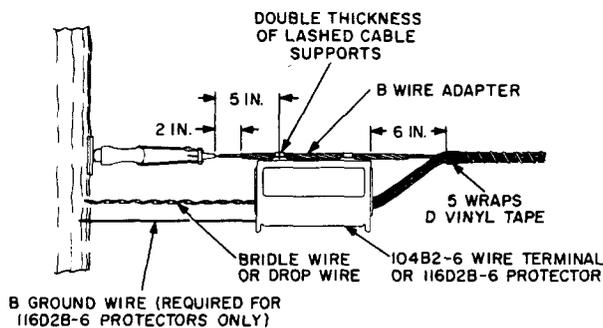
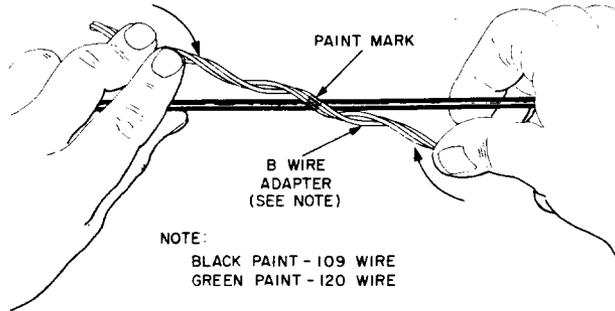

Fig. 1—Multiple Line Wire Deadend
Fig. 3—Installation of B Wire Adapter
- (1) Place the 3-wire set first, starting at the center which is marked by paint, as shown in Fig. 3. Place the 3-wire set (gauge by eye) on the support wire so that it is centered at the terminal clamp nearest the pole (Fig. 1). Wrap the set so it is spiraled around the support wire from the center out to the ends in each direction at once using the thumb
(b) Start the second B Wire Adapter on the support wire with the paint mark about 3 inches from the end of the first B Wire Adapter so that it is centered at the far terminal clamp. (Fig. 1).